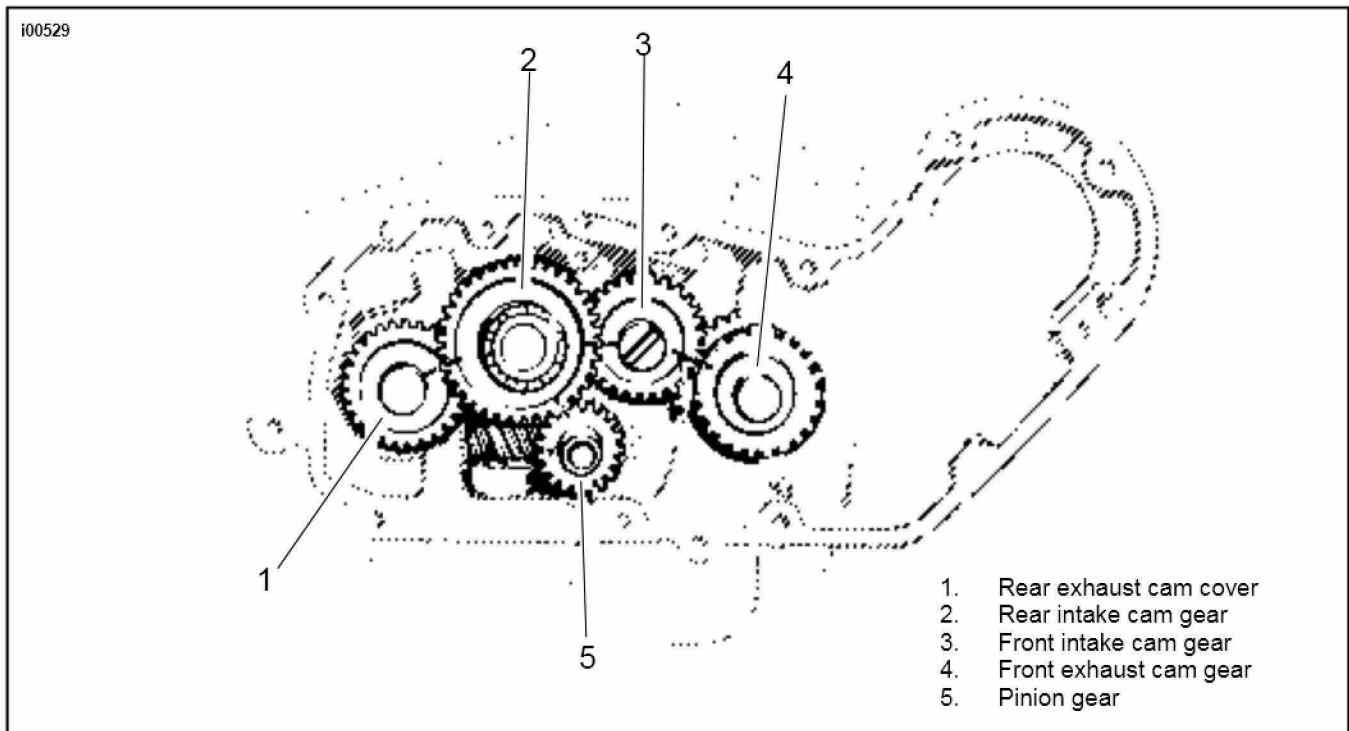

Figure 1. Timing Mark Alignment
9. See Figure 1. Rotate engine to align timing marks. Cams are numbered 1 to 4 from the rear exhaust (1) to the front exhaust (4). Remove camshaft (2). One at a time remove camshaft (1), (3), and (4) and replace with the appropriate camshaft from this kit. Be careful to maintain timing mark alignment. Install camshaft (2) from this kit last. Carefully check alignment of all timing marks.10. Following Service Manual instructions,